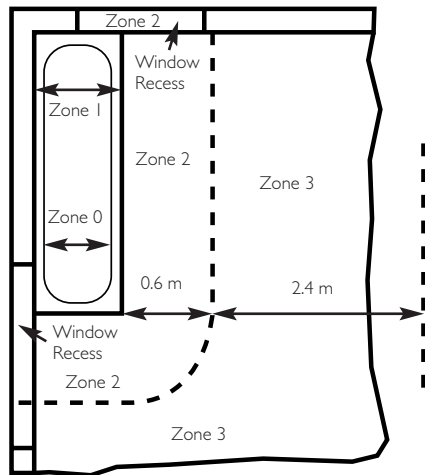

Fig. 11 In GB Only
1. As the boiler is fitted with an integral timer when installed in a room containing a bath or shower it cannot be fitted in zones 1 or 2. (Figs. 11 & 12 shows zone dimensions for a bathtub. For other examples refer to Section 601 of the Current I.E.E. Wiring Regulations). Reference must be made to the relevant requirements. In GB this is the current I.E.E. Wiring Regulations and Building Regulations. In IE reference should be made to the current edition of I.S. 813 "Domestic Gas Installations" and the current ETCL rules.